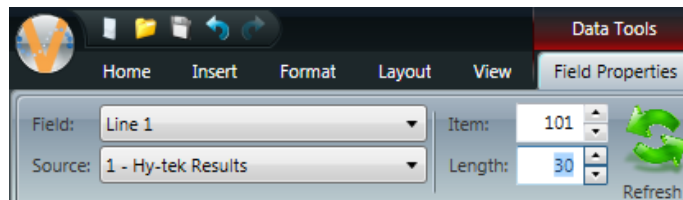

Figure 57: Data Field Properties (Galaxy/M3)
6. With the “Line 1” data field still selected, click on the **Field Properties** tab (**Figure 57**). Adjust the *Length* to best fit the presentation layout. The *Length* value should match the *Number of Characters per Row* set up in Meet Manager. Refer back to **Figure 30** or **Figure 45**. While adjusting the width of the data field, leave a couple pixels of space on either side to ensure that the edges are not touching any sides of the sign boundary.